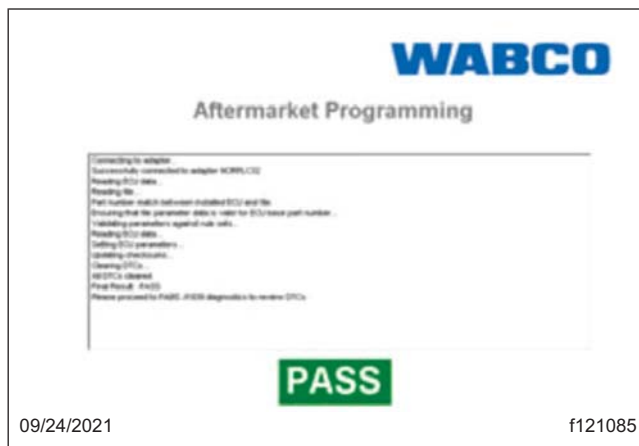

Fig. 15, Green Pass Indicator
17. After the file is selected, the 'Aftermarket Programming' window will appear. The programming will start, and the process status will be displayed in the status box. Upon successful programming, a green 'PASS' indicator will appear at the bottom of the window. See Fig. 15. If the programming process fails for any reason, a red 'FAIL' indicator will appear at the bottom of the window. An error code will be displayed with instructions. Record the error code, and contact the WABCO Customer Care Center 855-228-3203.